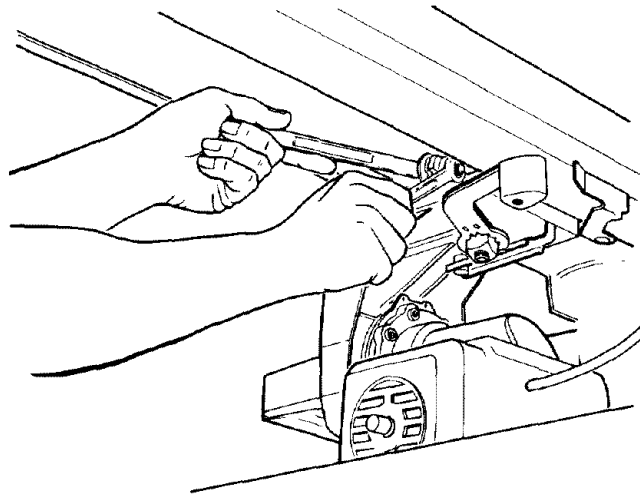

Fig. 155 - Location of Hex Nut
2. To adjust the bearing, use a 9/16 inch wrench to hold the bolt head while using a 1/2 inch wrench to loosen the hex nut. (Figure 155)